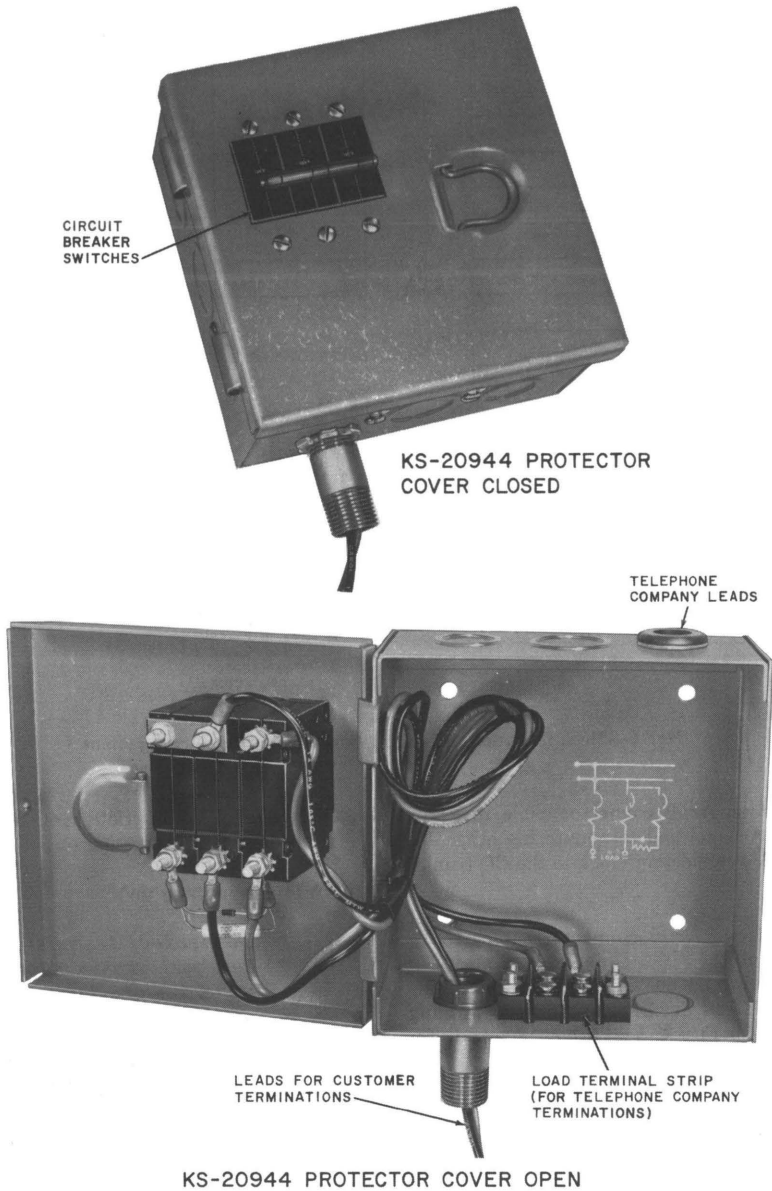

Fig. 5—KS-20944 Protector
- KS-20944, L1, Protector (Fig. 5)
- KS-20944, L2, Protector (Fig. 5)◀